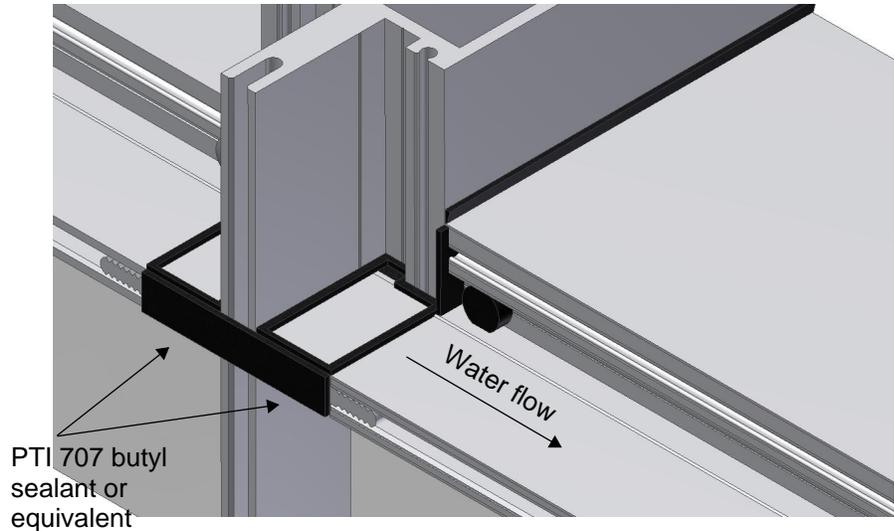

Figure 15: Apply a bead of sealant around the perimeter of each water dam.
- Apply a bead of butyl sealant around the perimeter of each water dam. Also apply sealant across the front of the water dam stretching across the tongue of the vertical member, as shown in Figure 15.